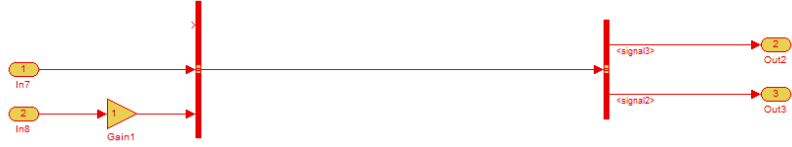

Figure 6: Resulting model after **Slice** operation
4. We can isolate the coreachability analysis by performing a slice. To do so, right-click anywhere in the model and select the **Slice** option. All blocks and signals which are not highlighted will be deleted from the model. The resulting model is shown in Figure 6.